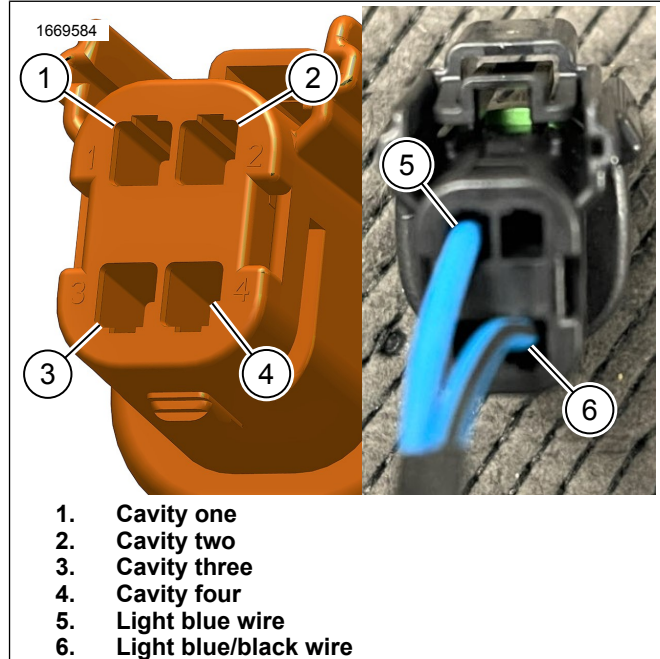

Figure 22. Rewire Harness 69203031
- See Figure 22. Use special tool to remove terminals from connector.